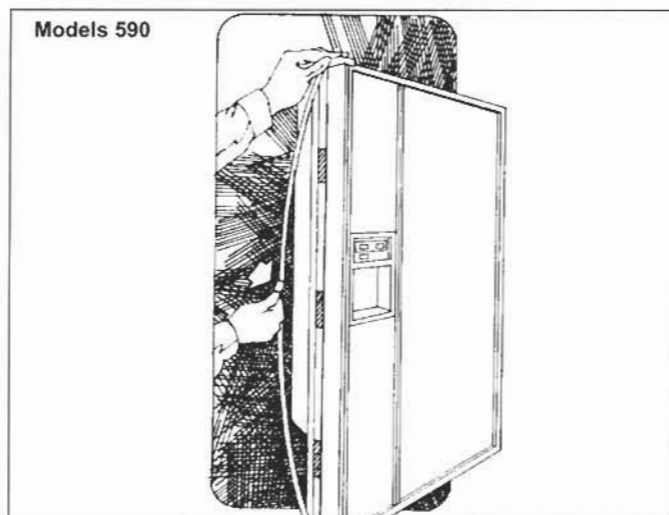

Figure 2-17. Door Trim Molding
1. Remove the door handle trim moldings (Figure 2-17). The trim moldings are held in place with magnets. Place one end of a piece of tape in the center of the molding, and remove molding by pulling on the tape.